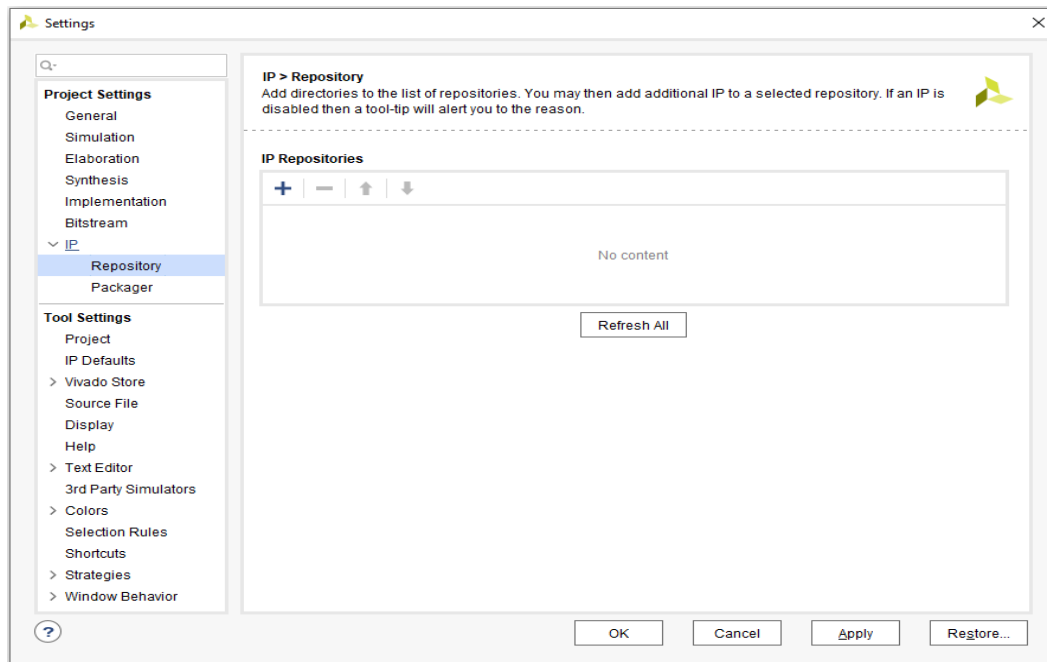

Figure 4: eMMC Host Controller 5.1 IP Configuration step 1
- IP location is ...\\E:\eMMC\eMMC_ZED_board_2021_2_CQE\zed_emmc_cqe\project_1.srcs\sources_1\bd\design_1\IP. Add IP by clicking on the ‘+’ sign as shown in Figure 4 above. After the IP is added click on Apply and close the dialogue box.